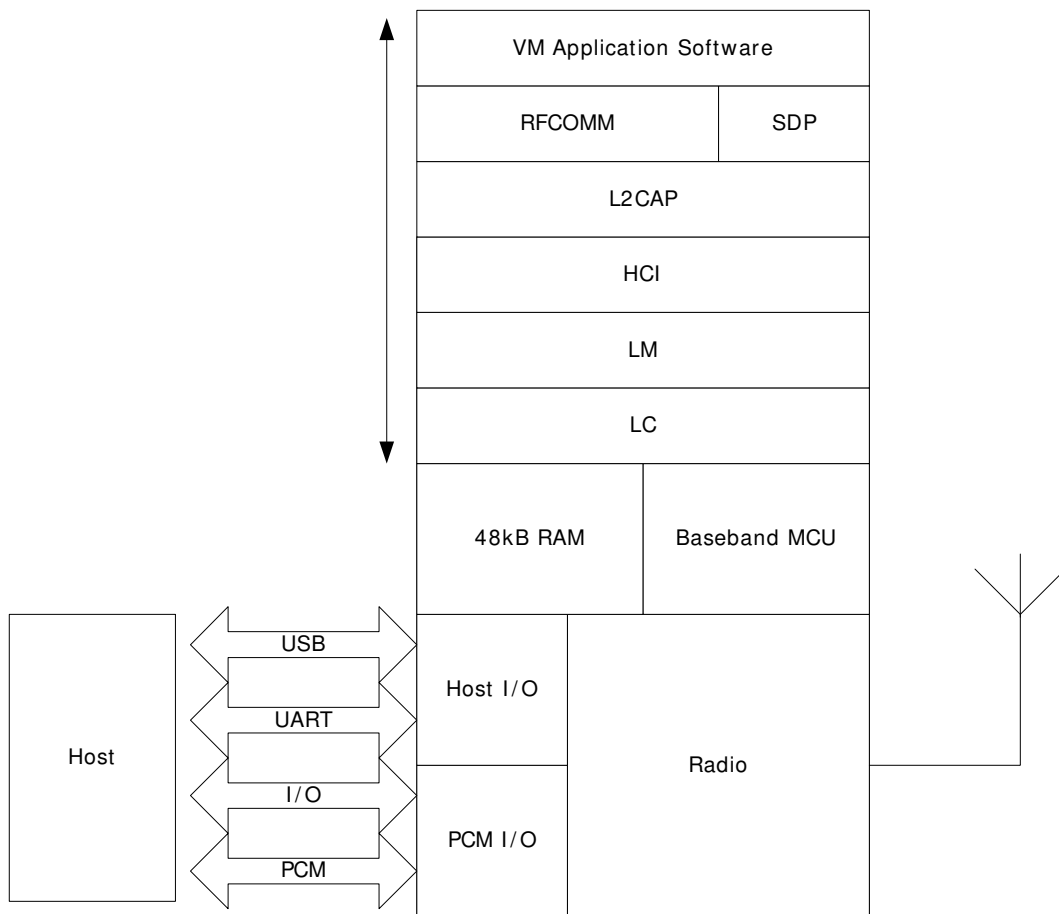

Figure 27: WRAP THOR VM Stack
In figure 27, this version of the stack firmware shown requires no host processor (but can use a host processor for debugging etc.). All software layers, including application software, run on the internal RISC processor in a protected user software execution environment known as a Virtual Machine (VM).